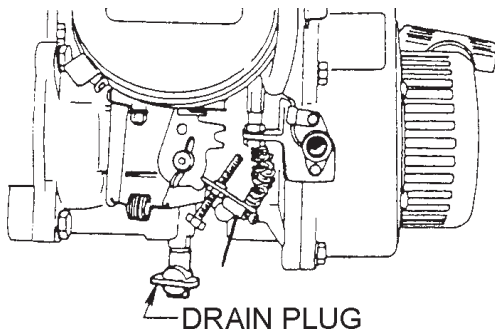

Figure 9. Drain Plug
7. If the carburetor is flooded or the crankcase is loaded with excess fuel, open the drain plug as shown in (Figure 9) and drain out excess fuel.